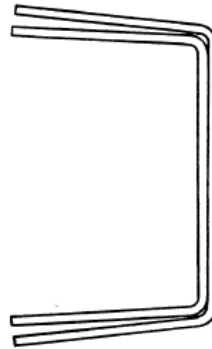
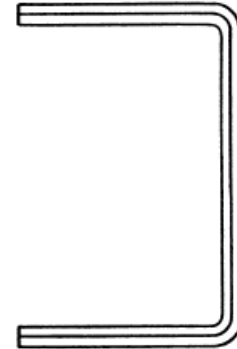

Figure 2A
Figure 2B
3. Now it's time to recondition your frame rails. Your frame is two layers thick in the front area. During the past 40 some years, rust forms between the layers of the frame rail flanges and swells, causing them to separate. This causes the rail flanges to actually open up, as in **Figure 2A**. Your rails will probably look similar to this. It is necessary to squeeze the two layers back together, using vice-grips or hammer and block. Then, using a large C-clamp, bend both flanges back together so the rail is square again. (See **Figure 2B**.) It does not need to be perfect for the entire length, but it should be close in the areas where the new crossmember and spring towers mount. The better you can make the rails in this step, the easier it will be to weld in the new components. Also, grind off and weld in the rivets on the top of the frame rails.